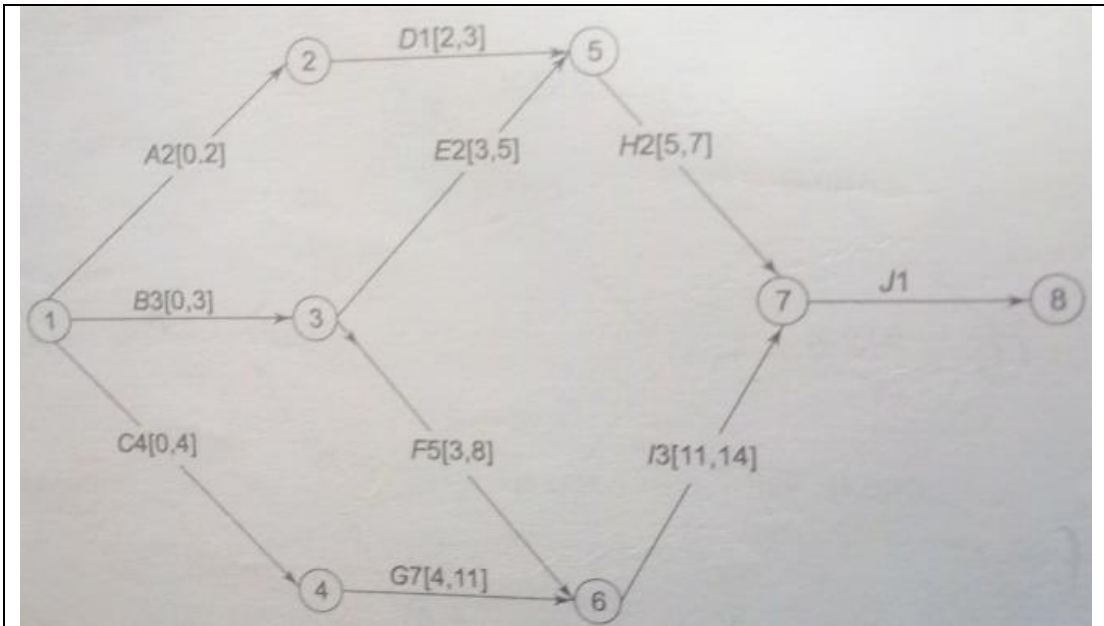

Figure 10
Step 3 : This stage is crucial as both node 5 and 6 meet at node 7. For node 5, earliest finish time is 5th week (As unless activity E is completed, activity 5 cannot be started). Similarly, for node 6, earliest finish time is 11th week (As unless activity G is completed, node 6 cannot be started). Therefore, for node 7, earliest starting time will be 11th week and not before that (refer figure 10).